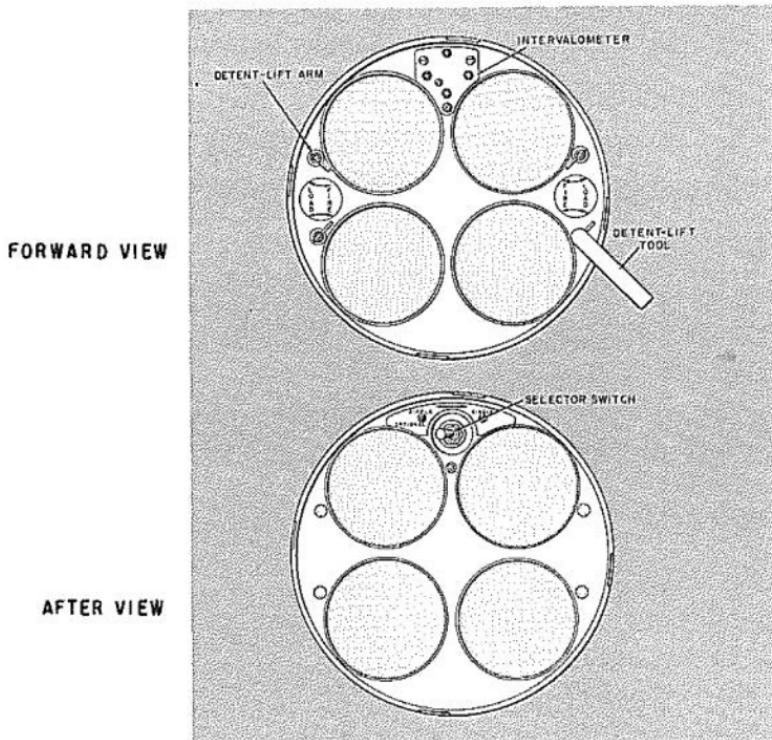

FIG. 17. Forward and After View of the Launcher.
through the intervalometer (Figure 17). The intervalometer, located in the center-section forward retainer ring, is so designed that when single-fire is employed, the intervalometer fires one rocket on each ignition pulse from the aircraft. When ripple-fire is employed, the intervalometer converts the ignition pulse into a ripple pulse and fires all rockets at approximately 100-millisecond intervals. It is necessary to keep the firing circuit energized continuously for 0.5 second to ensure a complete fire-out on ripple firing. When the intervalometer has made a complete four-round firing cycle, it automatically homes on the original starting point (ZERO) and will not recycle without first de-energizing the circuit, then re-energizing it. The intervalometer contacts are so arranged that when the intervalometer is at rest or stopped, the rocket squib leads are shorted.
8. Set the selector switch on the launcher to RIPPLE-OPTIONAL or SINGLE position (Figure 17) as indicated by the type of aircraft or mission.